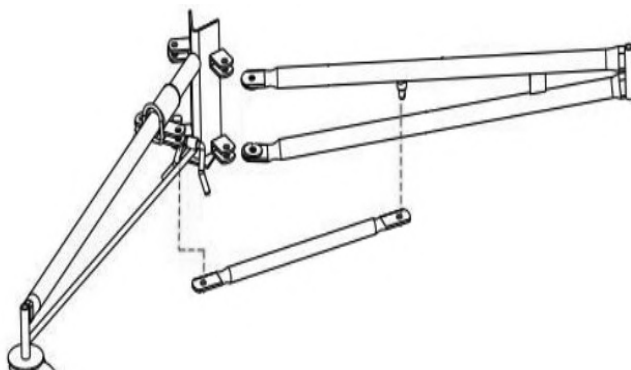

Figure 11
- Attach base connectors to base leg and yoke ring with the help of washers $\varnothing 12$, cotter pin $\varnothing 2.5 \times 25$ and bolts as shown in Fig. 11.